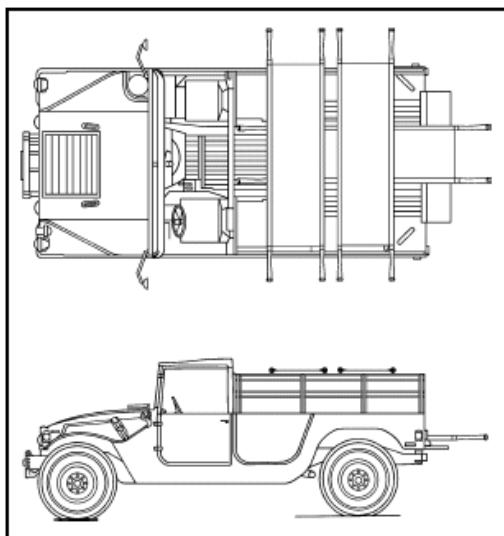

Figure 3-58. Load an M998
3. Direct nonmedical Soldiers to load an M998 (two-man configuration). Refer to Figure 3-58.